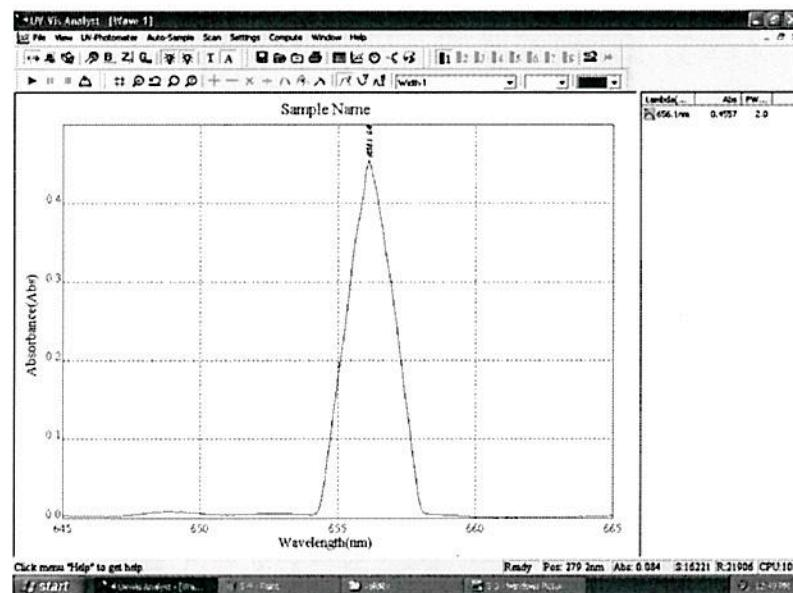

Fig. 5-11
4. Click Scan→Service→Spectrum Slitwidth on the Menu, it will scan from 665nm to 645nm. Click the peak and the spectrum slitwidth value list in the data table (Fig. 5-11).